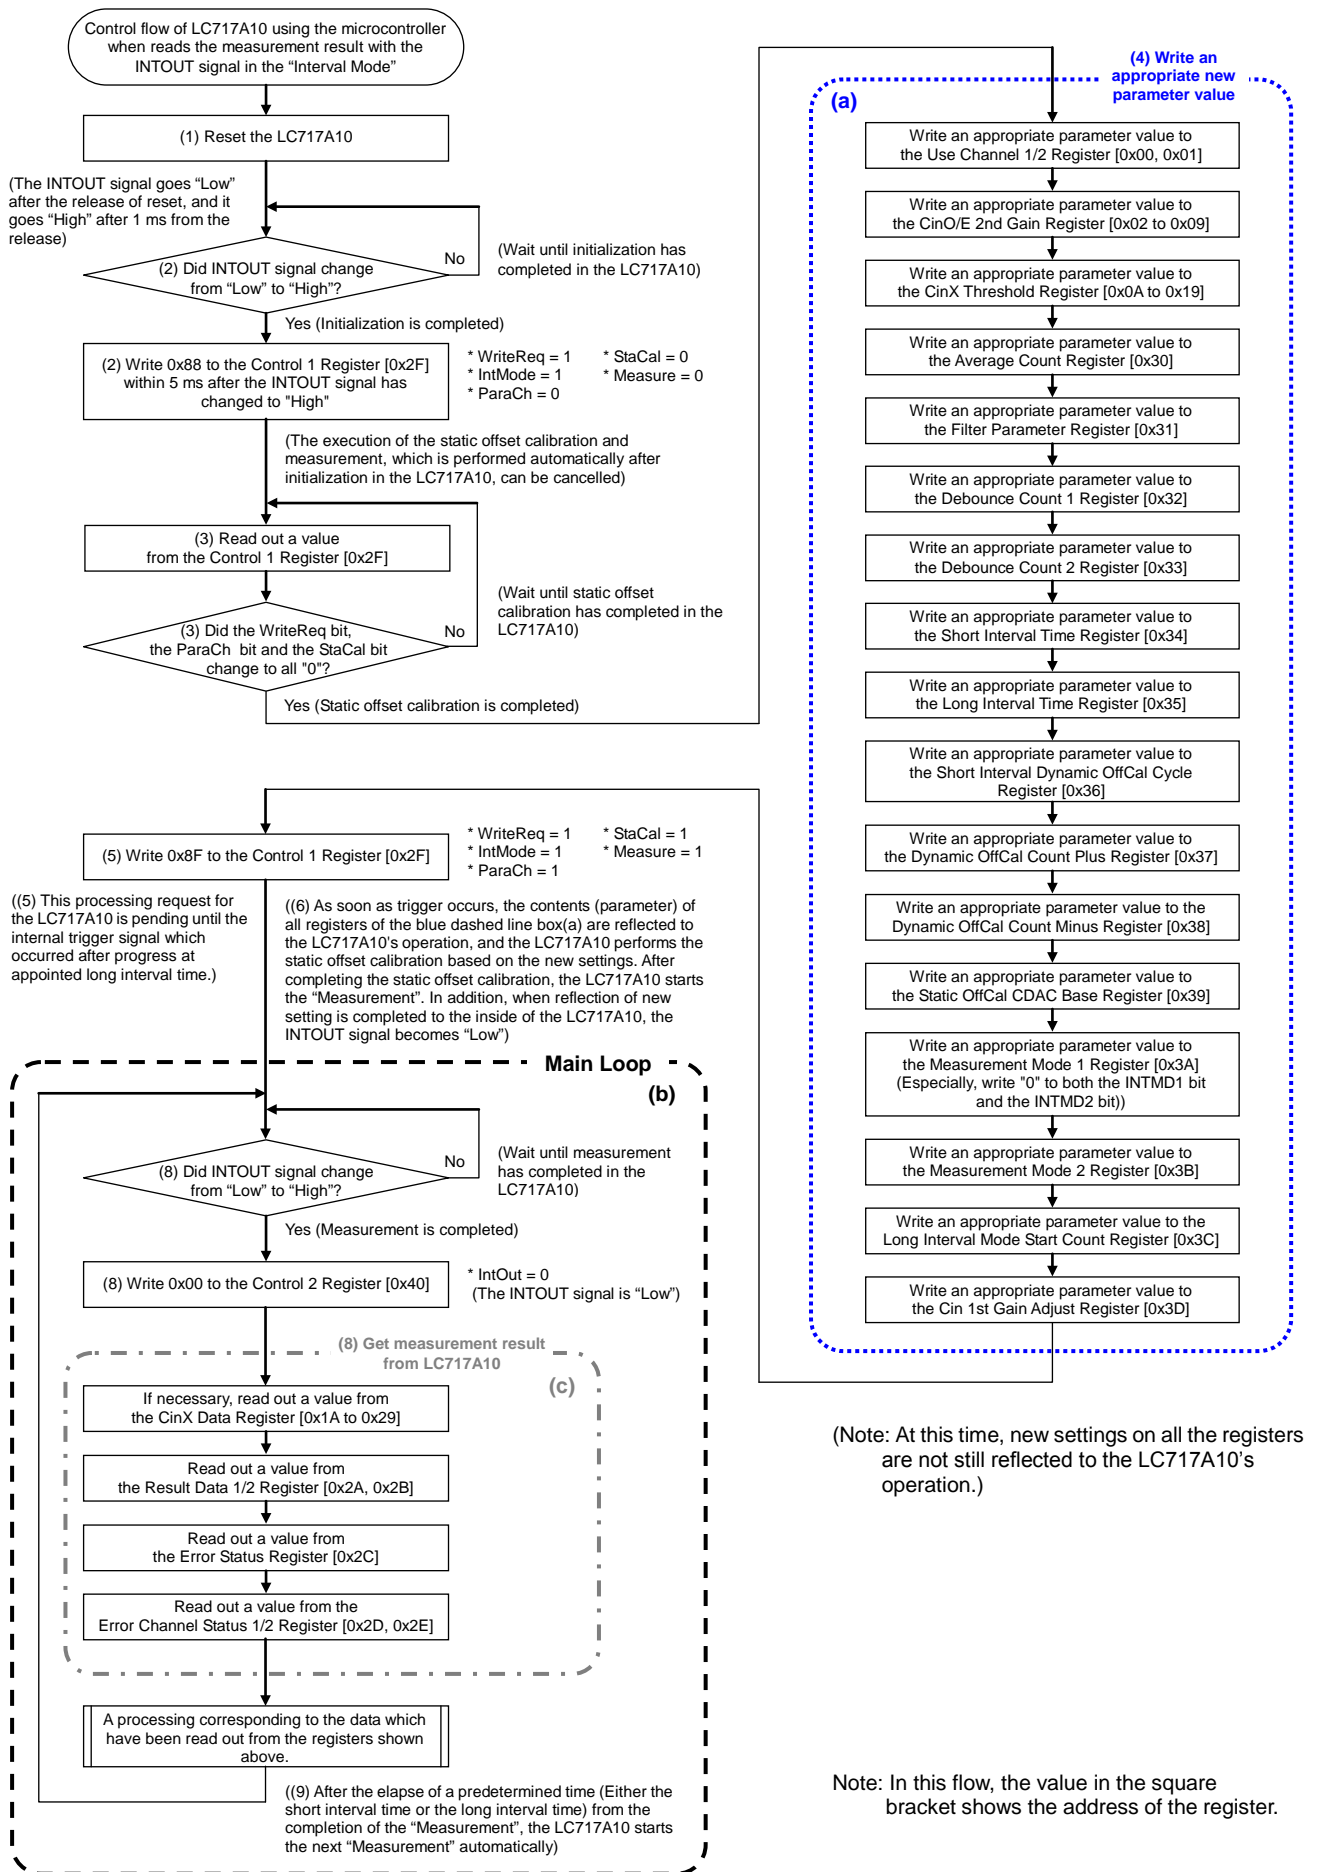

Fig.4-2 Control flow example when the microcontroller reads the measurement result with the INTOUT signal in the "Interval Mode"
- (3) A microcontroller reads the Control 1 Register (Address=0x2F), and waits until all of the WriteReq bit, the ParaCh bit and the StaCal bit are “0”. By doing (3), the microcontroller can confirm that static offset calibration was completed.
- (4) The microcontroller writes an appropriate parameter value to each register of the LC717A10 over the I²C (or SPI) bus. (For more information about registers the microcontroller may write a parameter to, refer to the inside of the blue dashed line box(a) on the control flow diagram shown in Fig.4-2)